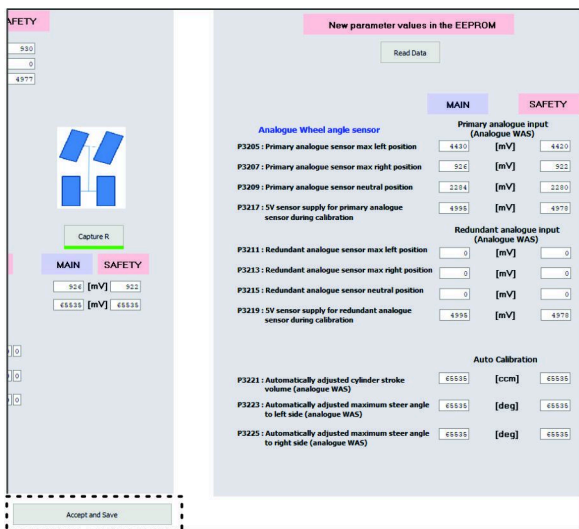

Figure 151
9. Click the ACCEPT AND SAVE icon (Figure 151).